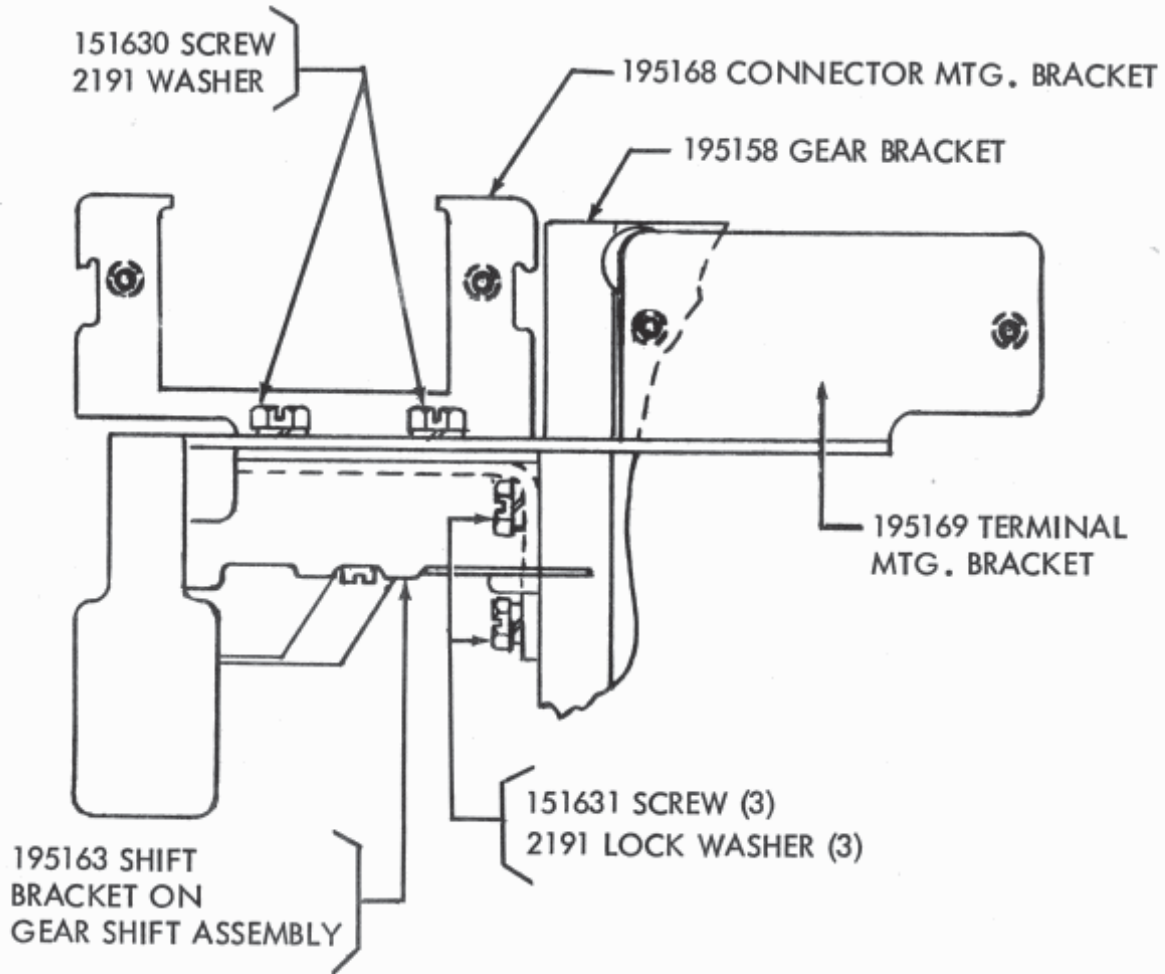

FIGURE 5
- u. Fasten the 195168 bracket and 195169 terminal block bracket to the bracket mounted to the gear shift casting. Place the 195169 bracket between the 195168 bracket and the gear shift bracket. Use two each 151630 screw, and 2191 lockwasher. See Figure 5.